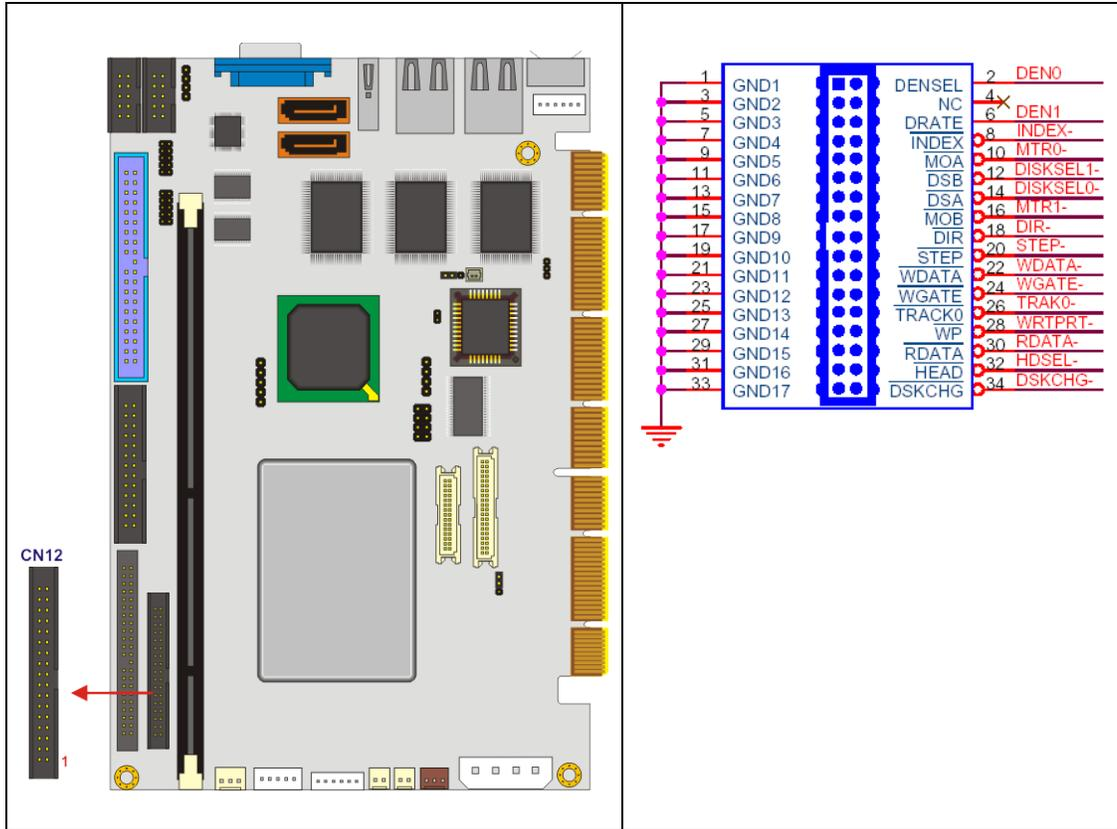

Figure 3-10: 34-pin FDD Connector Location
- CN Location:** See **Figure 3-10**